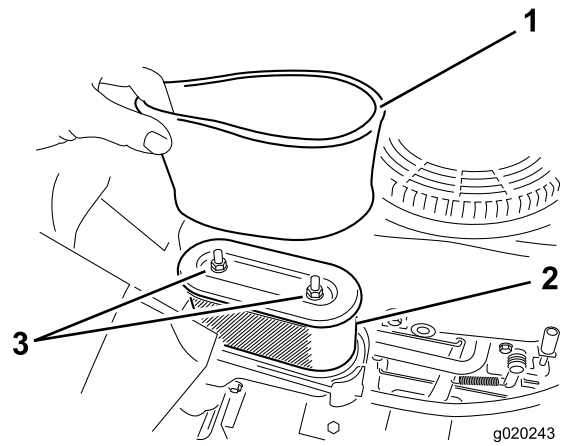

Figure 32
5. Carefully remove the foam and paper filter elements from the air-cleaner housing (Figure 32).
1. Install the foam filter onto the paper filter (Figure 32).